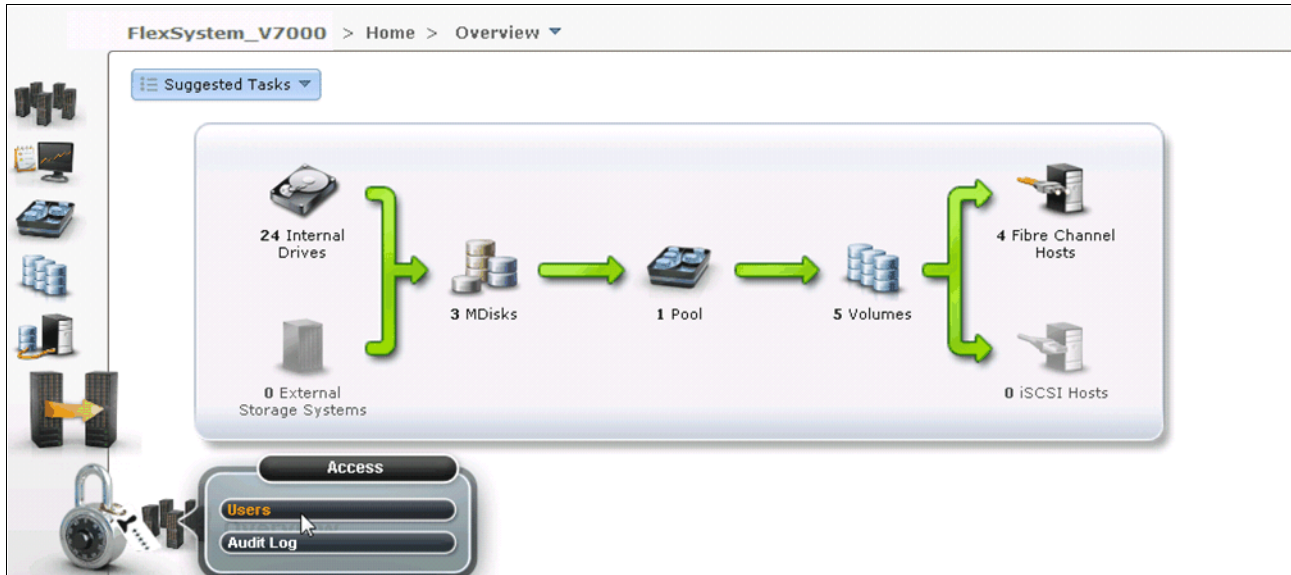

Figure A-6 Open Users section
1. Open the user section (Figure A-6).